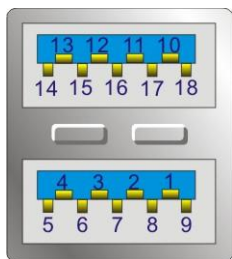

Figure 3-25: USB 5Gb/s Port Pinouts
- CN Pinouts:** See **Table 3-24** and **Figure 3-25**